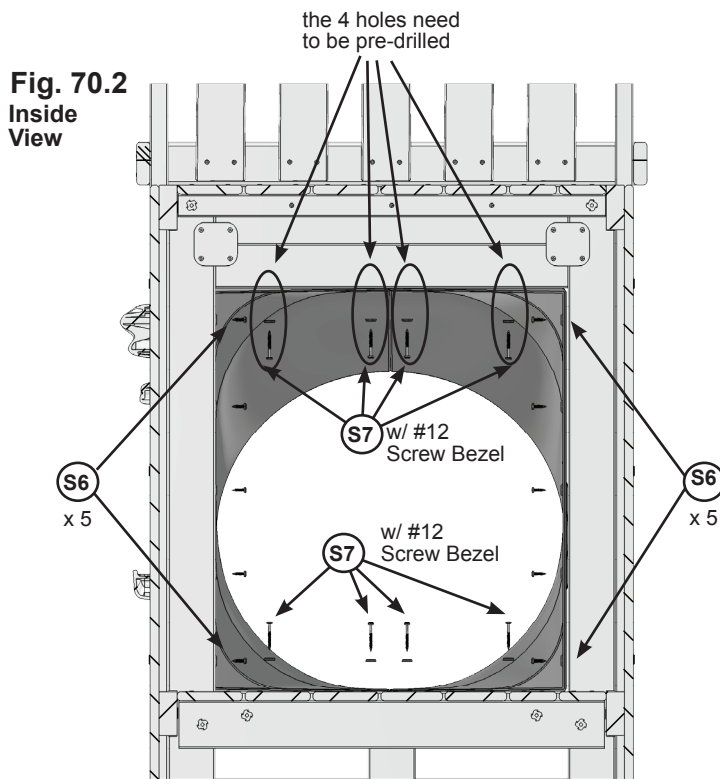

Fig. 70.1
A: With a helper place the Flange Assembly flush to the top opening in the Slide Wall as shown in fig.70.1, then pre-drill 1/8" pilot holes in (431) Upper SL Insert for the 4 upper mounting locations (approximate spots where circles are on figure), making sure the pre-drilled holes are a minimum of 1" deep. (fig. 70.2)